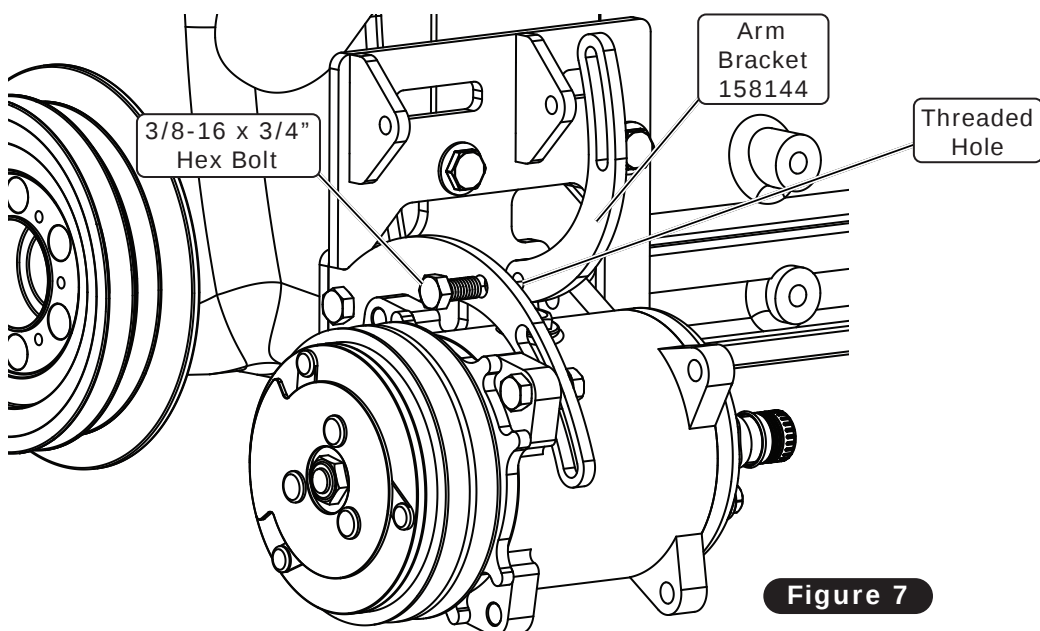

Figure 7
9. Install a 3/8-16 x 3/4" hex bolt through the hole in the compressor bracket and into the threaded hole on the arm bracket (See Figure 7, below).